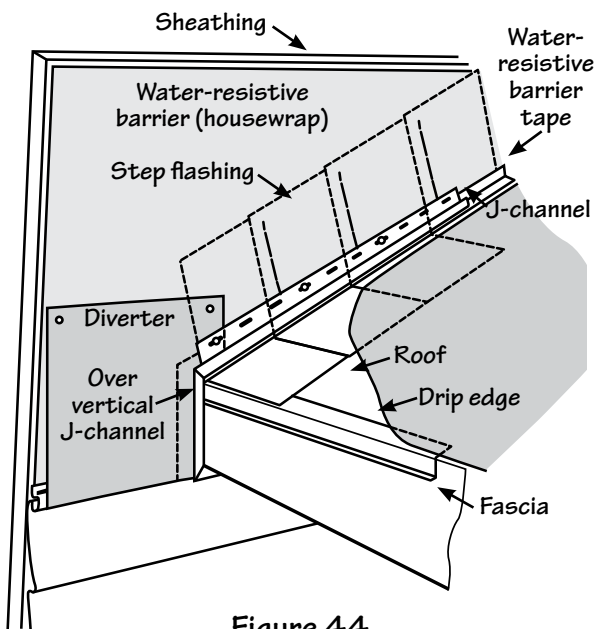

Figure 44.
- Extend the J-channel past the edge of the roof in order to ensure proper runoff. A diverter can be used; see Fig. 44 and 45 on page 26.
- Cut a diverter from aluminum trim sheet, making sure it sits on the nail hem of the last full course (Fig. 44). Make sure the diverter is placed inside the receiving pocket of the vertical J-channel and is tucked behind the nail hem of the J-channel following the roofline for best drainage.